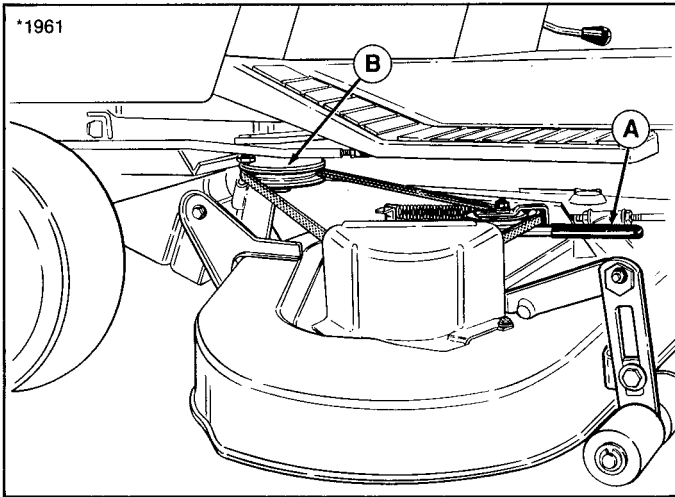

Figure 14.
2. On left hand side of tractor, push or pull idler pulley arm (A, figure 14) away from you (towards inside of tractor) to relieve belt tension.
3. With belt tension relieved, remove belt from electric clutch pulley (B, figure 14). Removing belt relieves the tension on the front hitch assembly.